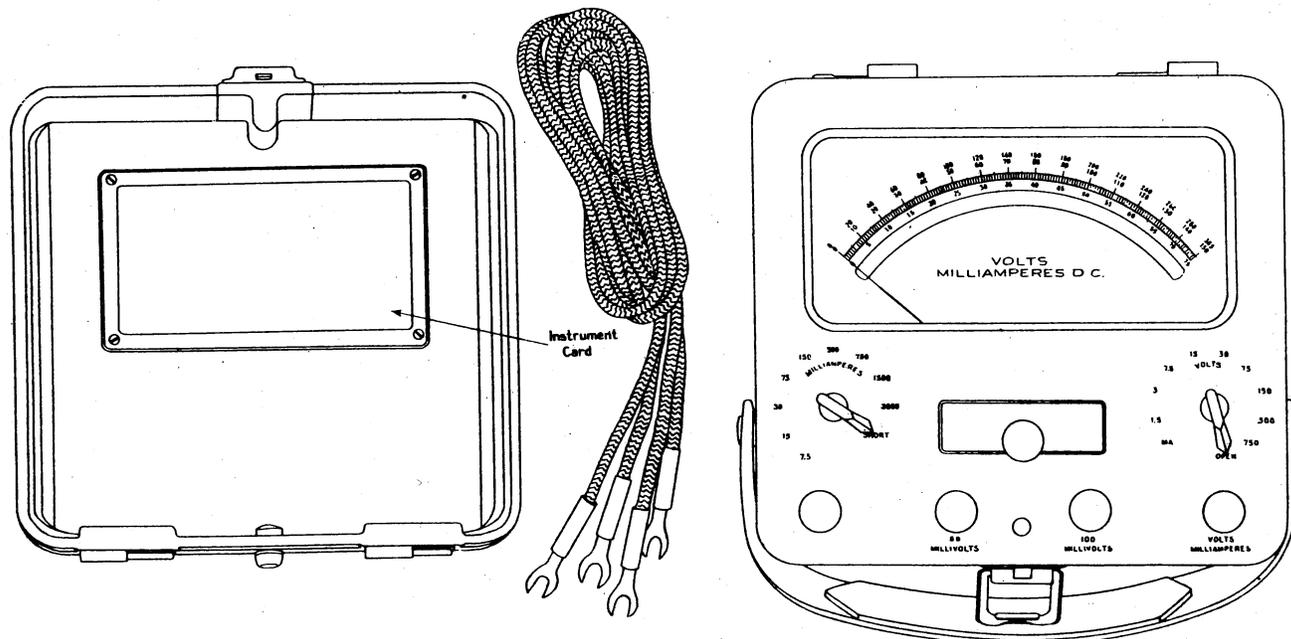

Fig. 1 - Weston Model No. 622, Volt-Milliammeter.
2.01 The meter and associated equipment is mounted in a bakelite case with a removable hinged cover. Shielding eliminates the effect of external magnetic fields. The overall dimensions of the case with the cover closed are approximately 7-1/2" x 8" x 4". The general appearance is as shown in Fig. 1.